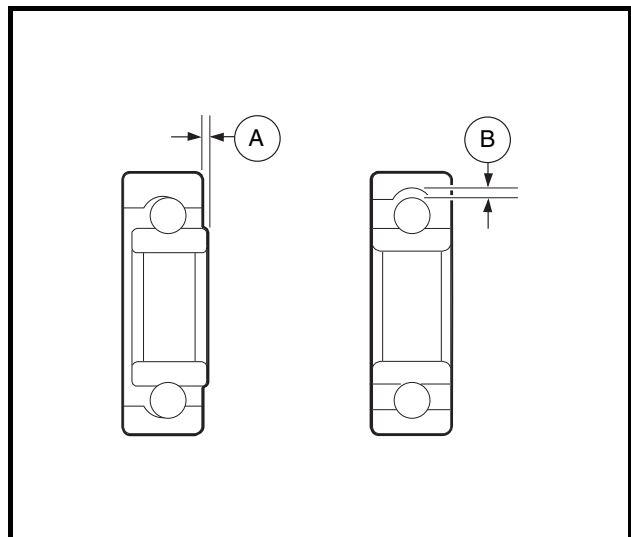

Figure 16-9 Inspect Bearing
1. Use a clean cloth to wipe the carbon dust off of the bearing. Inspect the bearing by spinning it by hand and checking for both axial (A) and radial (B) play (**Figure 16-9, Page 16-7**).